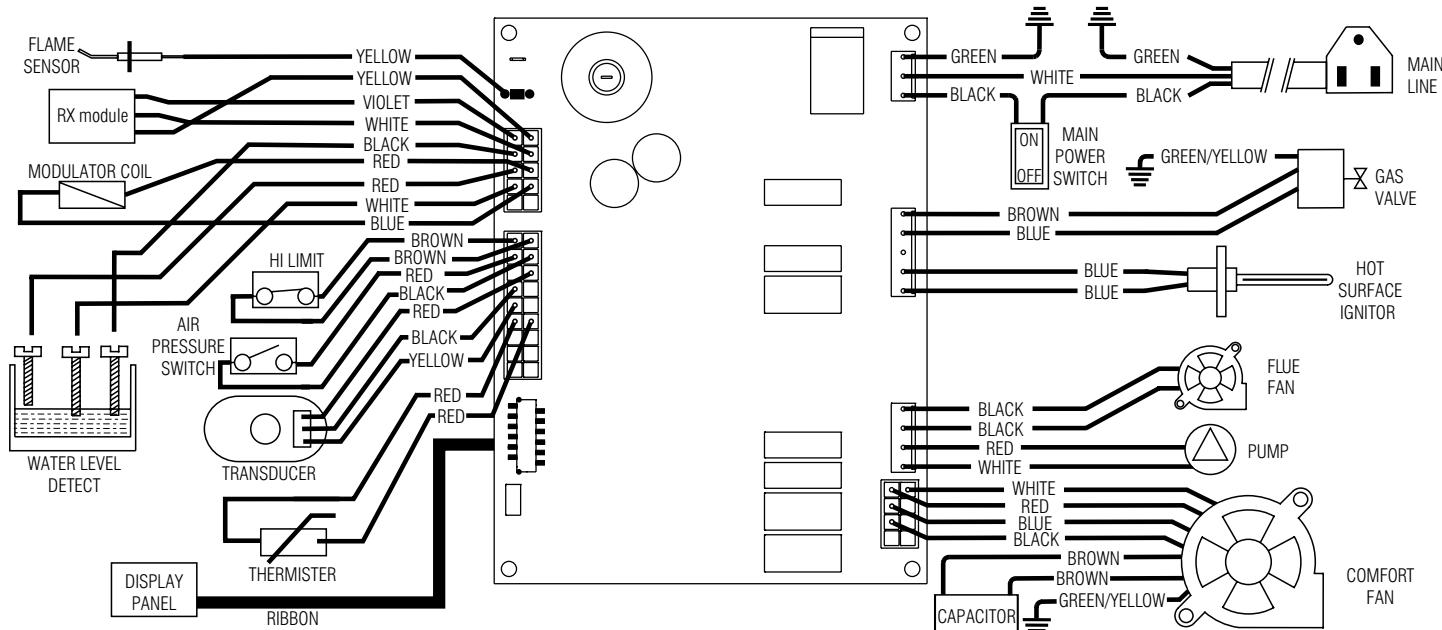
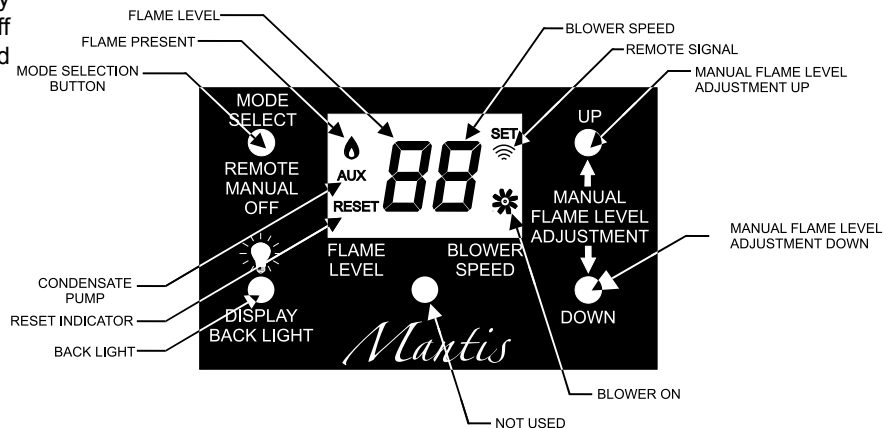

Figure 45
Figure 48
- C. The Display Panel board should be energized, and a "double dash symbol" (- -) the power light will be displayed. See Figure 48. The remote receiver automatically links to the remote transmitter's signal. If the fireplace does not respond to the remote when in remote mode as indicated by the double dash symbol, turn the main power off (Figure 45) and make sure the remote is on and active before turning main power back on.
1. Start the fireplace with the remote, or press the display panel's "Mode Select" button (Figure 48) to start the fireplace manually. The Display Panel will energize, and the desired flame level will be displayed.
6. Use the "Manual Flame Level Adjustment" buttons on the display panel (Figure 48) or the remote control to change the flame level setting.
The display panel back light will automatically turn off five seconds after an input (either manual or remote) is acknowledged. The back light will automatically turn on when a new input is acknowledged. To turn the back light on manually, press the "Display Backlight" button on the bottom left of the display panel (Figure 48).
When the fireplace has been running, the "AUX" symbol on the display panel (Figure 48) will turn on to signal that the pump has been activated. Refer to Page 42 - Automatic Humidifier Operation.